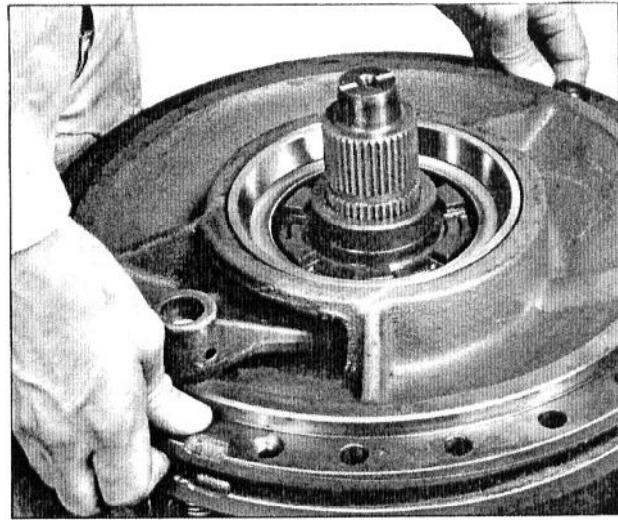
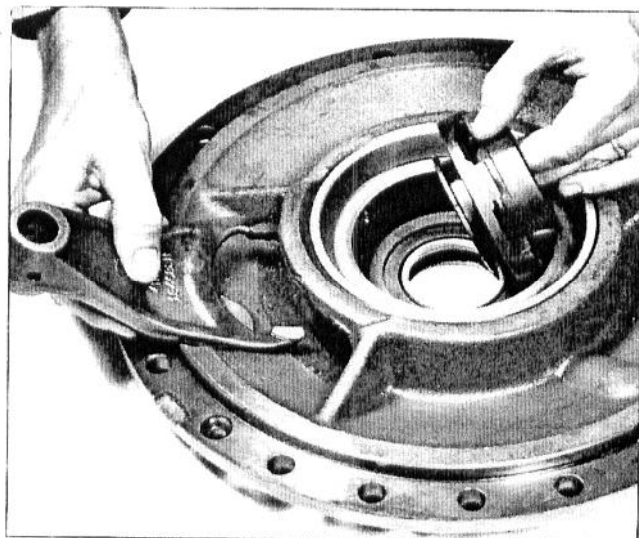

Fig. 9 — Removing or Installing Carrier Plate (Diff. Lock)
Fig. 11 - Shift Fork and Diff. Lock Coupler Removal or Installation
housing and carefully lift it from the axle shaft. Avoid damaging the oil seal with the axle shaft splines. See Figs. 9 and 10. Remove the actuating fork and diff. lock coupler from the R. H. carrier plate as shown in Fig. 11, if tractor is so equipped.
3. Carefully place the carrier plate over the axle shaft (and diff. lock shaft on R.H. side of differential lock models) and align the retaining screw holes. Do not damage the oil seals. Refer to Figs. 9 and 10.